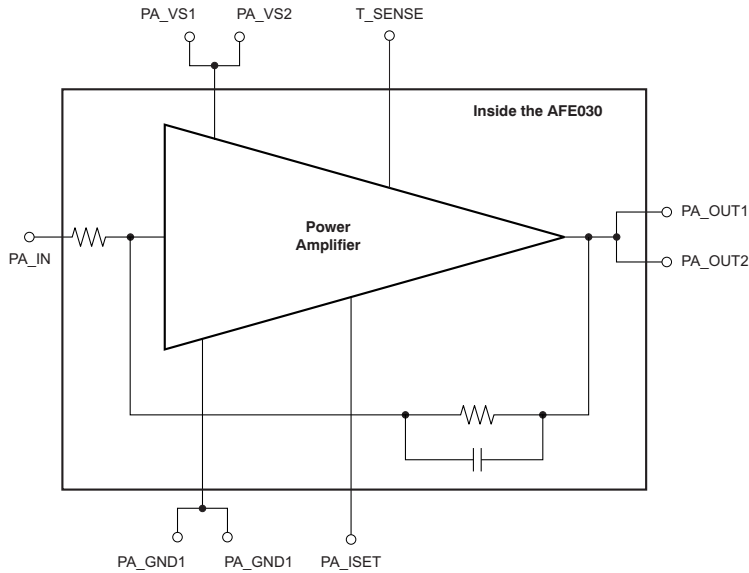

Figure 25. PA Block Equivalent Circuit
The power amplifier (PA) block consists of a high slew rate, high-voltage, and high-current operational amplifier. The PA is configured with an inverting gain of 6.5 V/V, has a low-pass filter response, and maintains excellent linearity and low distortion. The PA is specified to operate from 7 V to 26 V and can deliver up to ±1 A of continuous output current over the specified junction temperature range of –40°C to +125°C. Figure 25 illustrates the PA block.